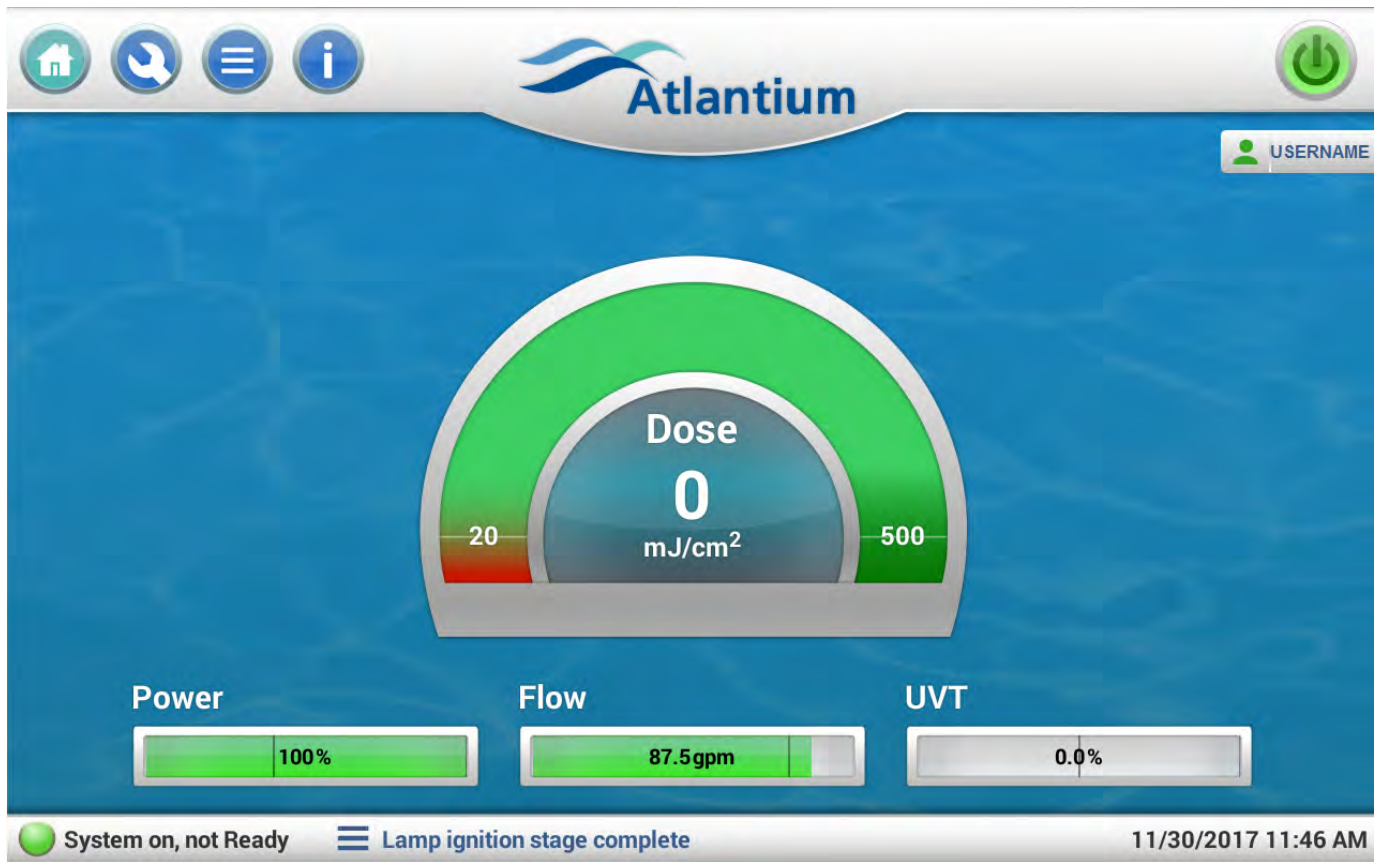

Figure 8-2: Main screen showing on-spec system (generic)
Step 6. Check that the Main screen shows that system is working properly according to spec (see Figure 8-2)